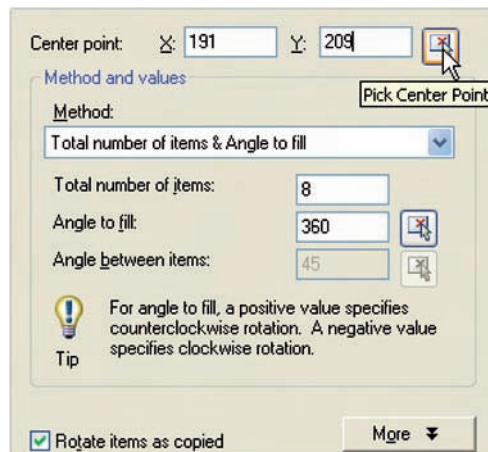

Fig. 5.21 Second example – **Array** – the **Pick Center Point** button
3. Click the **Select objects** button of the dialog and *window* the drawing. The dialog returns to screen. Click the **Pick Center Point** button (Fig. 5.21) and when the dialog disappears, *pick* a centre point for the array.